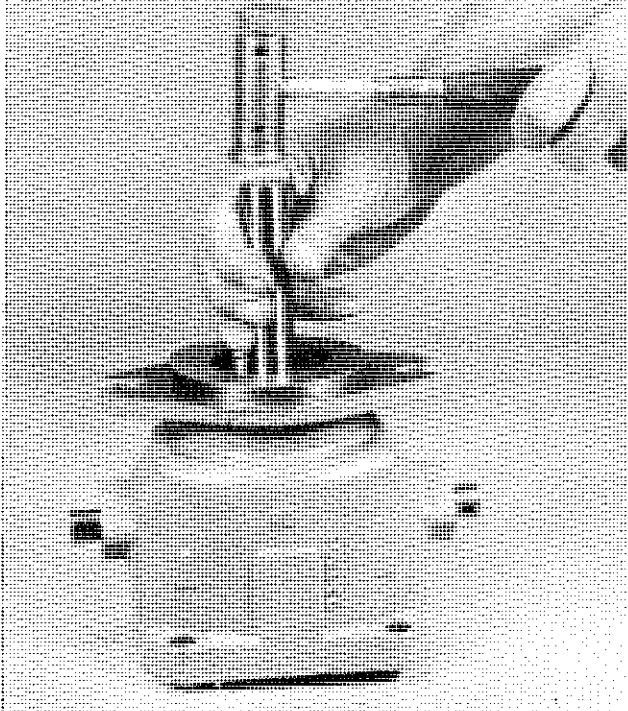

Figure VI-40. Removal and Replacement of Motor or Pump Shaft Seal
- After seal is in place, remove driver (Figure VI-40).